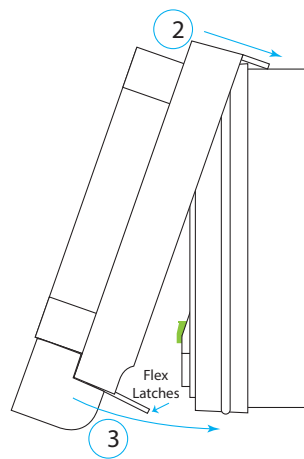

Fig. 7.4
2. Attach the cover by placing the top latch over the ridge and housing seam of the IB7000 (Fig. 7.4).
3. Then, hinge the bottom part of the cover onto the bottom part of the IB7000. If there is resistance, the bottom latches are flexible and can be pried outward and onto the IB7000 (Fig. 7.4).